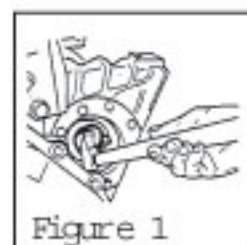

Figure 1
2. Remove the seal and sheet metal oil shield and discard as in (Figures 1 and 2).